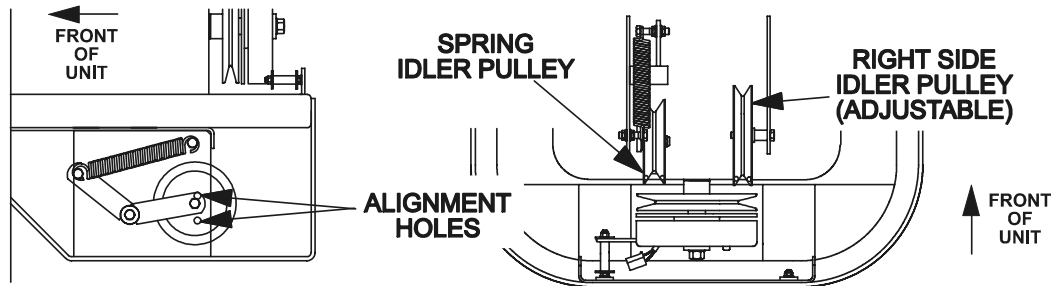

FIGURE 10
- b) Check to make sure the center of the bolt head in the center of the spring loaded pulley, on left side engine deck support, is positioned between the centers of the two alignment holes in the left support plate (See Figure 10). It is necessary to adjust the belt tension when the center of the bolt head is at or below the center of the bottom alignment hole.